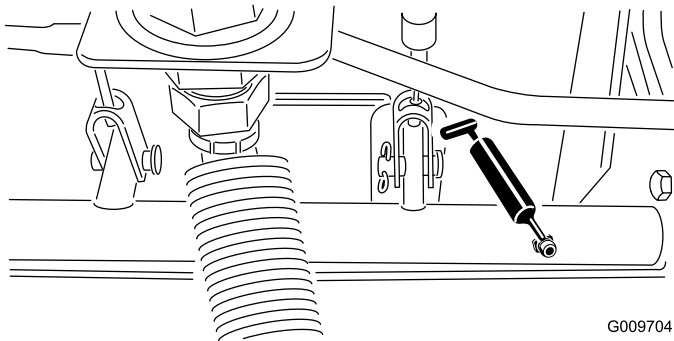

Figure 32
- Brake-shaft pivot bearings (5) as shown in Figure 32